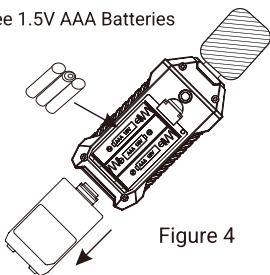

Figure 4
1. Open the battery cover and insert three AAA size 1.5V batteries (refer to Figure 4).